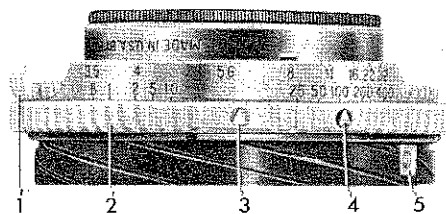
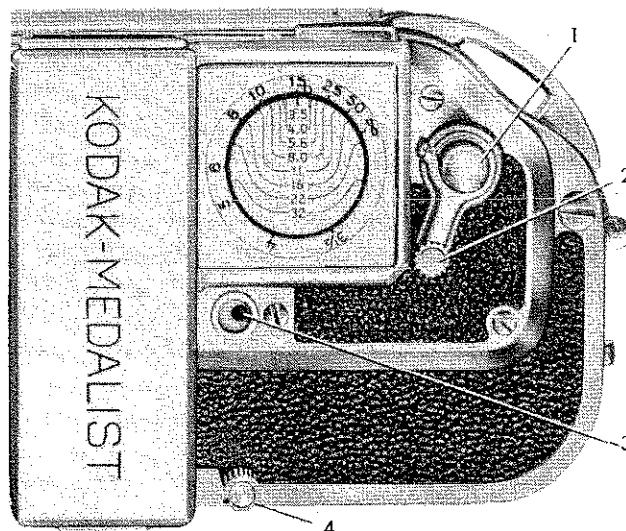

Figure 15—Setting Shutter Speed
Figure 16—Shutter Controls
(1) To adjust the shutter for a speed of 1/25 second or faster, turn the knurled speed control ring (2, figure 15) until the black pointer (4, figure 15) is at the shutter speed desired.
(2) For a speed slower than 1/25 second, turn the speed control ring until the red pointer (3, figure 15) is at the speed desired.
(3) For bulb exposures, move the red pointer to the letter "B." Press the trigger button; the shutter will remain open as long as the button is held down.
(4) For time exposures, move the red pointer to "B" and swing the time lever (2, figure 16) forward as far as it will go. When the trigger button is pressed down, the shutter will open and remain open until the time lever is swung back to its normal position.
(5) To use the delayed action release, place the
h. RELEASING THE SHUTTER.—Normally the shutter is set when the film is wound; however, after the first section of film is brought into position, it is advisable to push the shutter setting lever (4, figure 16) toward the center of the camera as far as it will go and then release it. Bring the lens to the picture-taking position and press the trigger button to make the exposure. The operating position of the camera is shown in figure 18. It will be unnecessary to set the shutter manually for the other exposures.
(1) The red signal (3, figure 16) located directly behind the focusing scale is a warning that a new section of film must be brought into position. As a new section of film is brought into place, the red signal disappears. It reappears after the exposure is made.
(2) After an exposure is made, the winding key knob is released. Turn the knob until it locks; this sets the shutter and moves the succeeding exposure number to the forward half of the exposure counter window.
i. DOUBLE EXPOSURES.—When a double exposure is wanted, make the first exposure and then push the shutter setting lever (4, figure 16) toward the center of the camera as far as it will go. Release the lever, permitting it to return to its original position, and again push the trigger button.
j. USING A CABLE RELEASE.—A T.B.I. Cable Release No. 2 can be used with the Kodak Medalist. To attach the cable release to the camera, screw it into the cable release socket (5, figure 15) directly behind the shutter speed control ring. After the